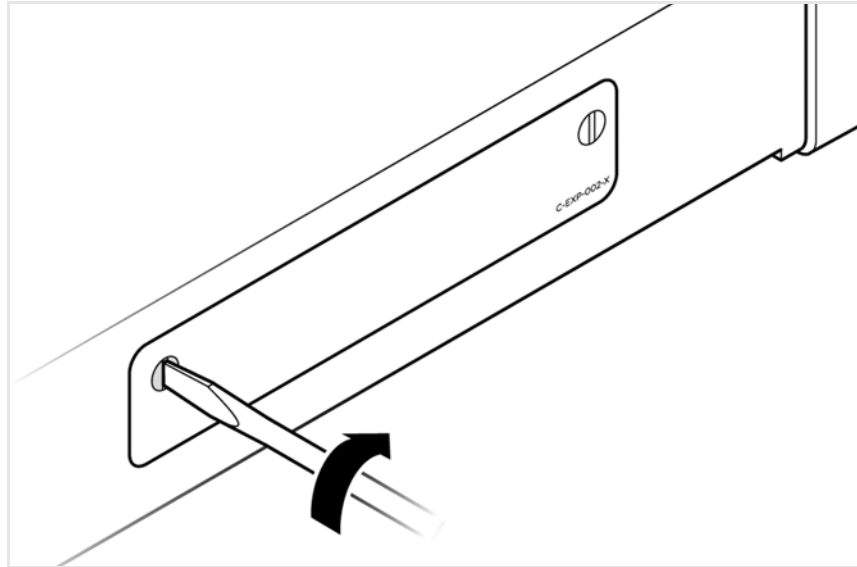

Figure 2.43: Replace Retaining Screws in Blank Panel and Tighten
7. Replace the CATC Expansion Card with a blank panel and tighten the retaining screws. See Figure 2.43.